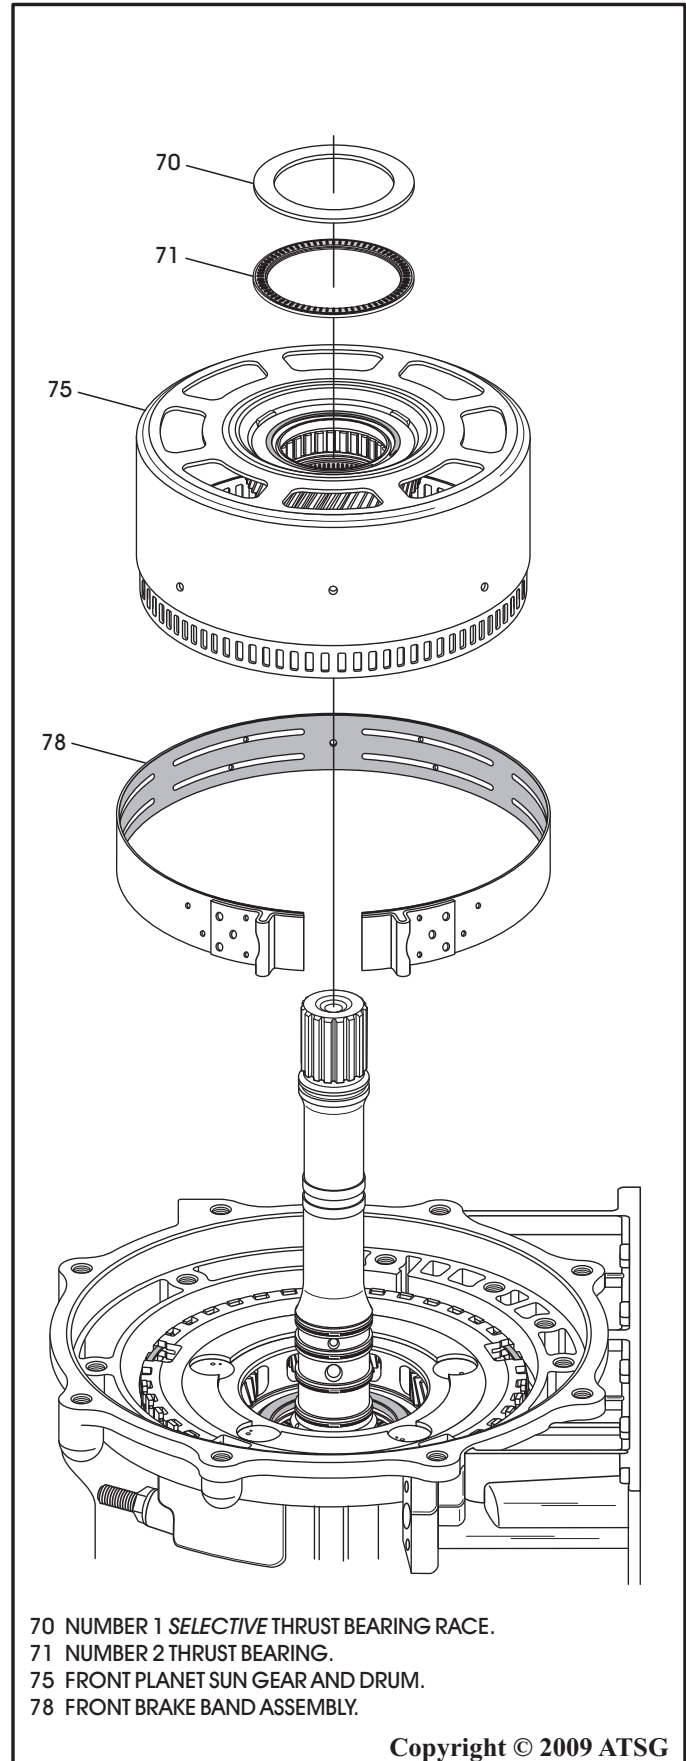

Figure 45
20. Remove the front planet sun gear and drum, as shown in Figure 45, and remove the number 1 and number 2 thrust bearings.
21. Remove the front brake band assembly from the case, as shown in Figure 45.